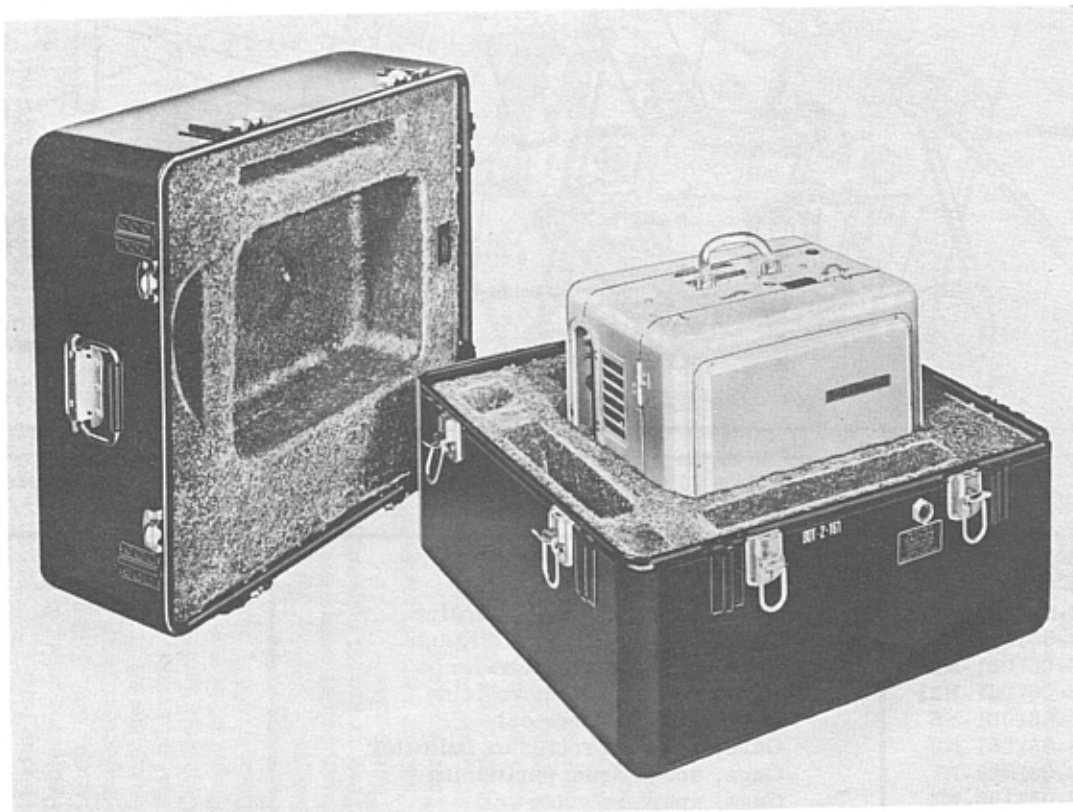

Figure 1-1. Type AQ-2A(1) Projector and Carrying Case
1-2. This handbook provides complete overhaul and testing instructions for the Type AQ-2A(1) 16-mm Sound Motion Picture Projector, manufactured by the Bell & Howell Company, Chicago, under their model designation Design 614-DB. See figure 1-1 for overall view of equipment.